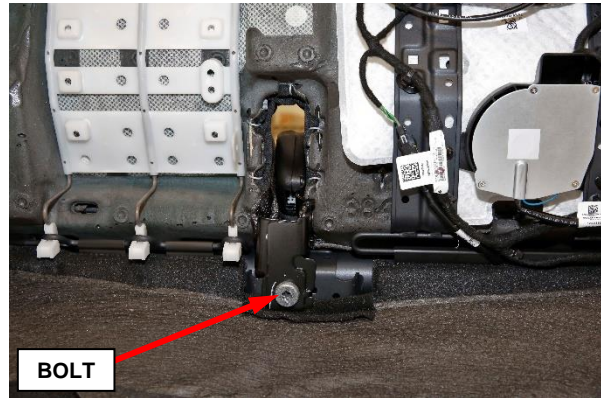

Figure 30 – Seatbelt Anchor Bolt
30. Remove and **DISCARD** the center seatbelt anchor bolt on the bottom side of the seat (Figure 30).
73. Guide the center seatbelt through the seat cushion. **Ensure the seatbelt is not twisted.** Align the seatbelt anchor and buckle assembly then install a **NEW** bolt. Tighten the seatbelt anchor bolt to 55 N·m (41 ft. lbs.) (Figure 30).